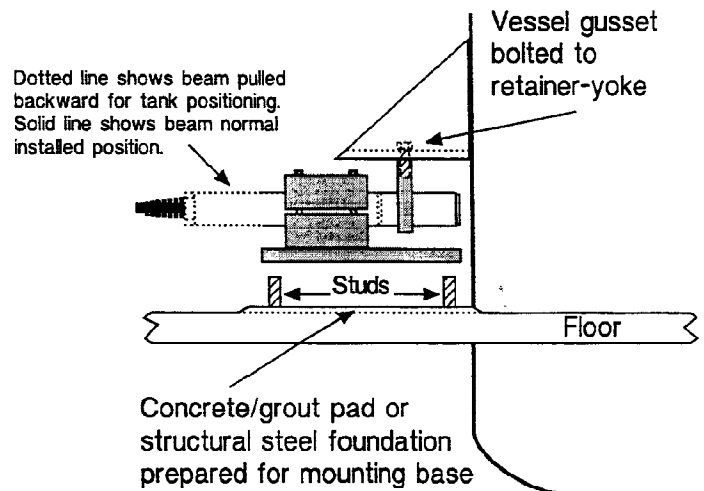

Figure 2-3. KIS Installation Arrangements
- (4) **Mechanical Installation** (Figure 2-3):